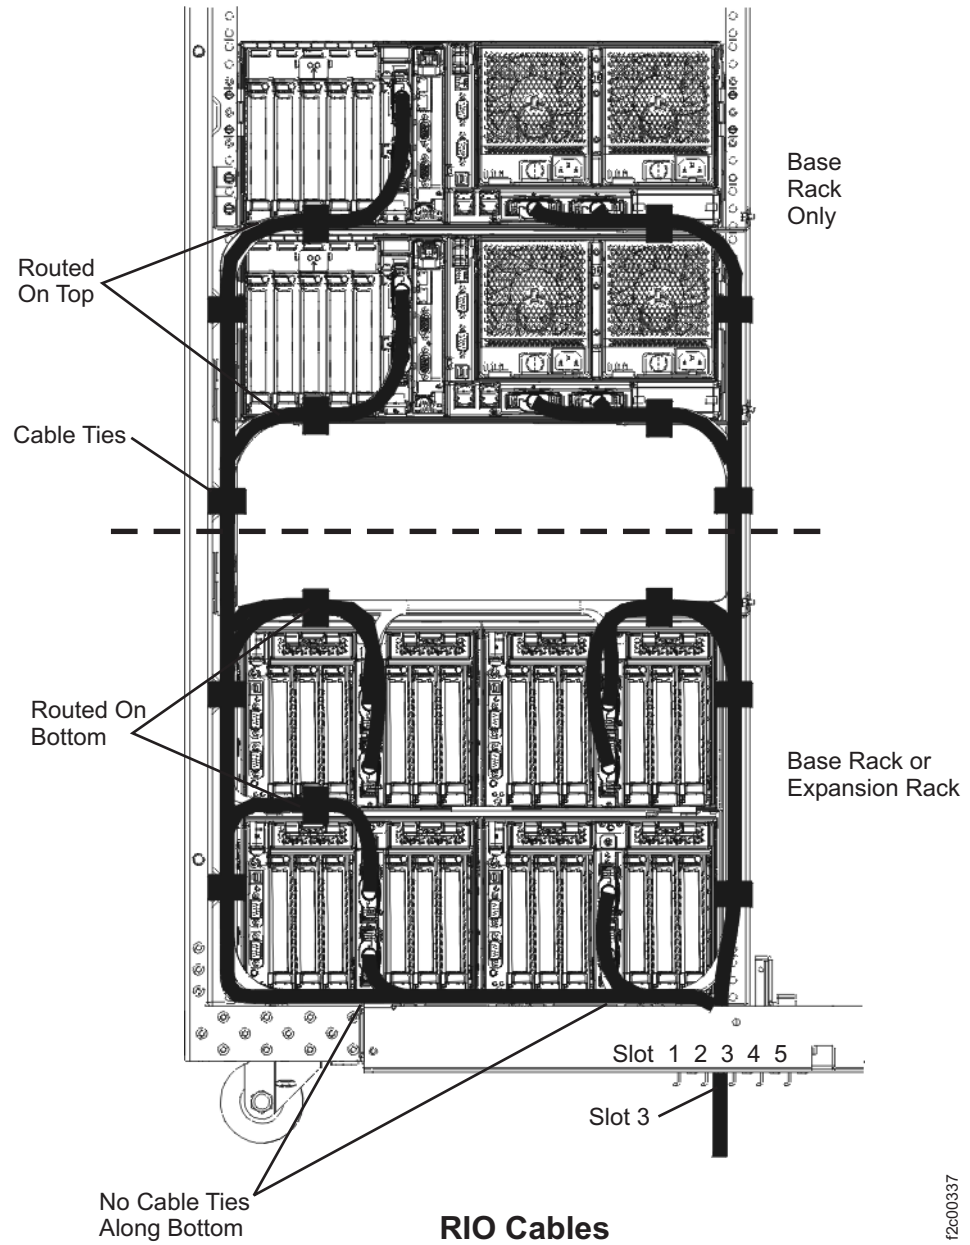

Figure 27. RIO cable routing (early version tailgate)
- For cable routing inside of the rack, see Figure 27 on page 31.
- If you have the earlier version of the tailgate (all five cable slots on the right side of the tailgate), route all RIO cables through slot 3. See Figure 27 on page 31.